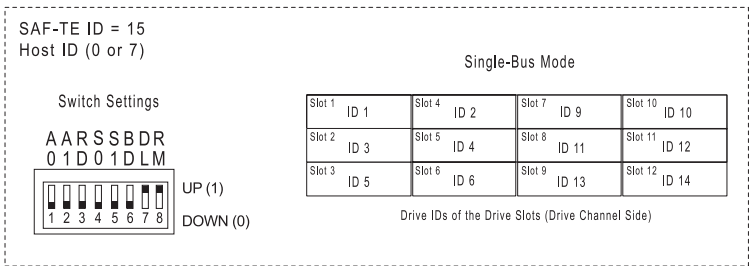

Figure C-2 Single-Bus JBOD Switch Setting
- 2 Locate the switches on each card and set them as shown in Figure C-2.